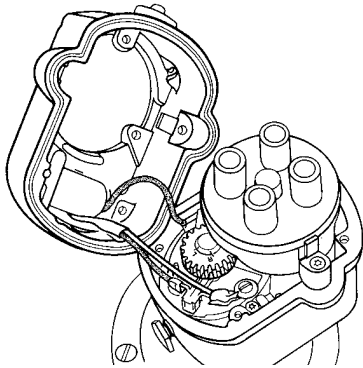

Figure 7.18
- A. Connect wires to tachometer contact points. (See Figure 7.18 )